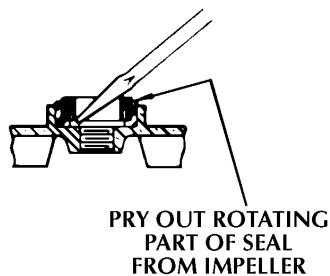

Figure 6
2. Pry loose the ceramic seal seat in back of impeller, using screwdriver between seat and cavity in impeller as shown in Figure 6. Clean cavity from which seat was removed.